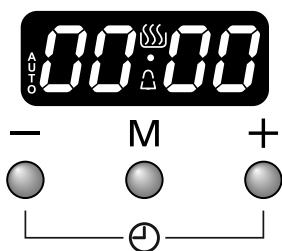

Fig.2-30
1. Press the mode [M] button once (Fig.2-30). The bell symbol (🔔) will flash on the display. Select the desired countdown from 00:01h to 23:59h using the [+] button (Fig.2-31). The countdown will automatically begin and the (🔔) symbol will show in the display.